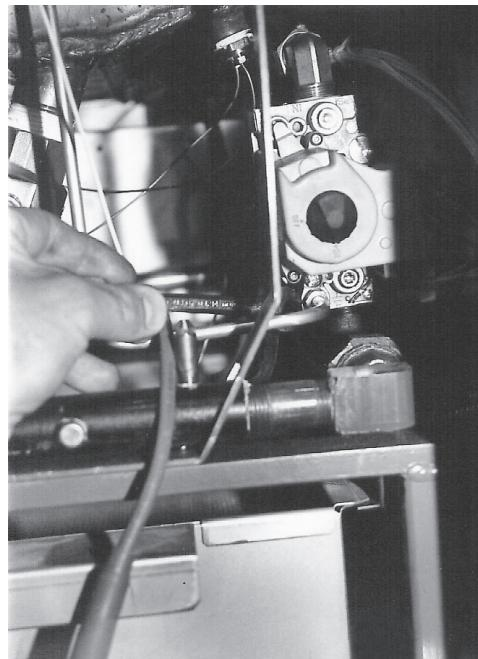

Fig. 41
2. With a  $\frac{7}{16}$ " wrench, loosen the pilot tube holding nut. (Fig. 41)